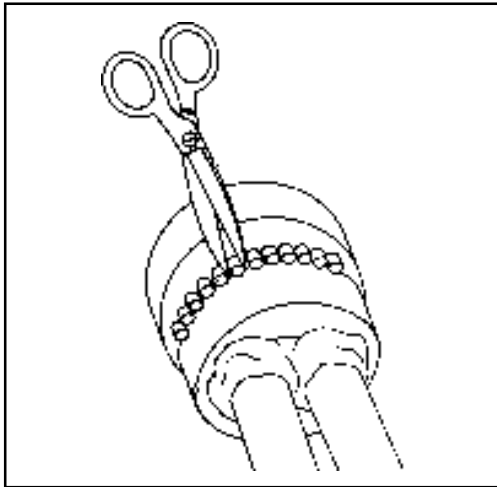

FIGURE 2- CUT THE NIPPLE OFF ENTRY PORT
- 3.01** Cut the nipple off the drop wire entry port or ports to be used. Figure 2.